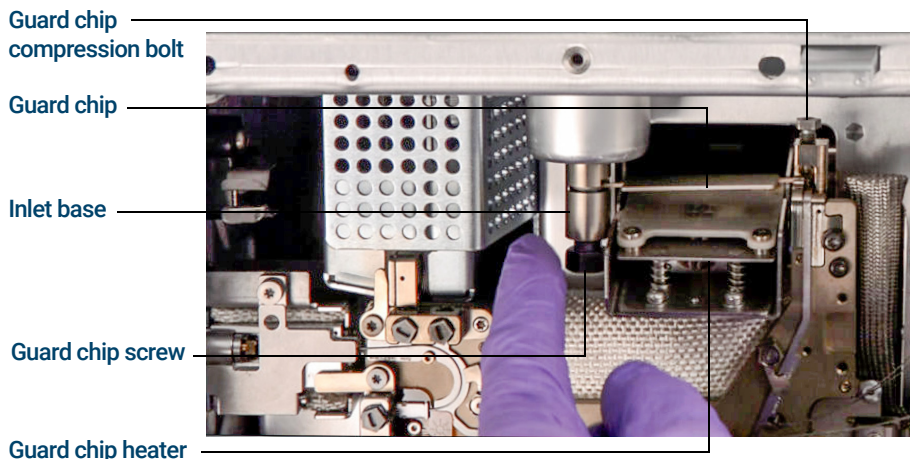

Figure 12. Guard chip and related parts
- 9 Pull the compression bolt access plate out to allow the torque driver to access the Guard chip compression bolt. (See **Figure 12** on page 60.)